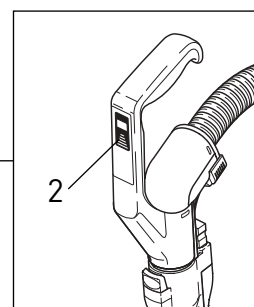
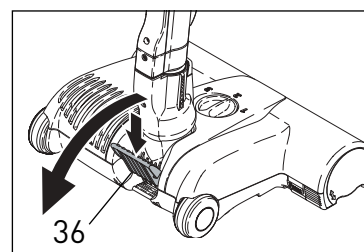
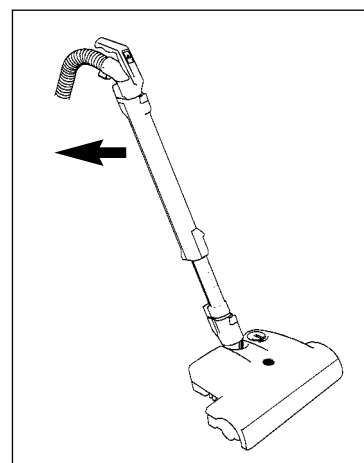

Figure 5
Figure 6a
Figure 6b
1. With the canister main power switch in the OFF position, and the power control slider on the handle (#2, figure 5) in the OFF position, pull the power cord out from the base of the canister. The power cord should be unwound from the cable reel at least two thirds of its length. The cable rewind is operated by pressing the rewind pedal (16). Before rewinding the cable, always switch off and unplug the vacuum.
3. Press the main power switch on the base of the canister gently with your foot or hand. The green light (13) will illuminate indicating that the power is on.
4. Slide the Power Control Slider (#2, figure 5) to the ON position (the slider will "click" when it is pushed out of the OFF position). It will then slide freely between 0 suction and MAX suction. Set the slider to the suction desired. Release the foot pedal (ET-1, ET-2, ET-C) on power head (#36, figure 6a) or, for the ET-H, lower the handle (figure 6b).
Operating The Machine - Figures 6a & 6b
To release the ET-C, ET-1 or ET-2 power head from the upright locked position, press down on the foot pedal (#36, figure 6a) and lower the handle into the normal operating position. The brush roller will then start spinning and the green light on the power head will illuminate.
To release the ET-H power head from the upright locked position, gently place your foot on the power head for leverage and lower the handle into the operating position (figure 6b). The brush roller will then start spinning. The amber indicator light may flicker for a few seconds when you lower the handle - this is normal.
You may adjust the suction control with the power control slider (#2, figure 5) as you vacuum different surfaces or when using the accessory tools. For optimal cleaning and brushing, operate the machine at the maximum suction power setting and push the power head slowly over the carpet.
When the canister's main power switch is in the ON position, you may turn the power head off and on with the power control slider (#2, figure 5). To turn the power head off using the power control slider, pull the slider to 0 suction, then continue pulling the slider up until it "clicks" into the OFF position. The green power head light will then shut off (the green light on the canister (10) will remain illuminated until the vacuum is powered off using the main power control knob).
Switch Position - #2, Figure 5